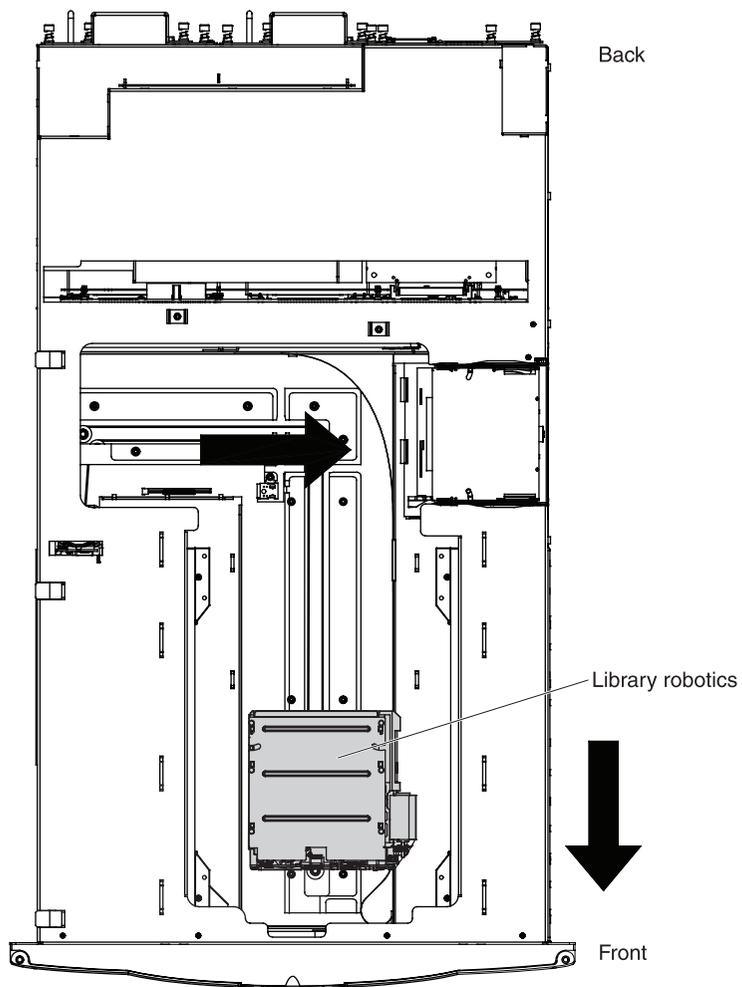

Figure 6. Moving the robotics
2. If the library is not operational and you have not run the **Park for Shipping** command, grasp the robotics and gently move it to the front of the library, as shown in Figure 6.